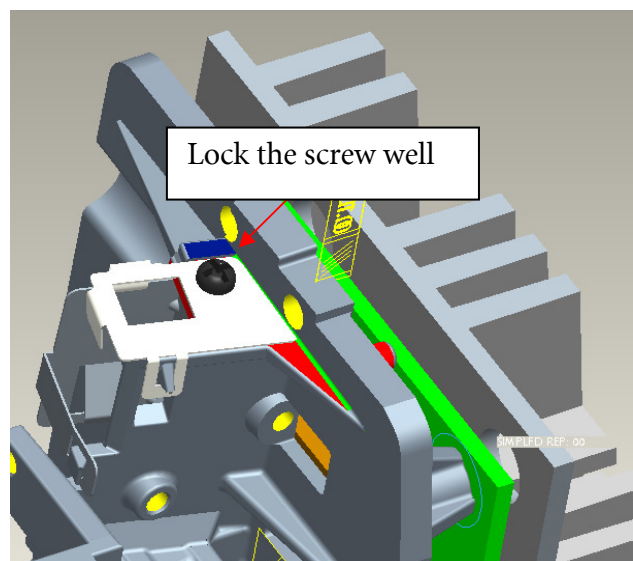

Fig. 1-8
- vi. Lock the screw of Baffle LP well then release the hand (Fig. 1-8),